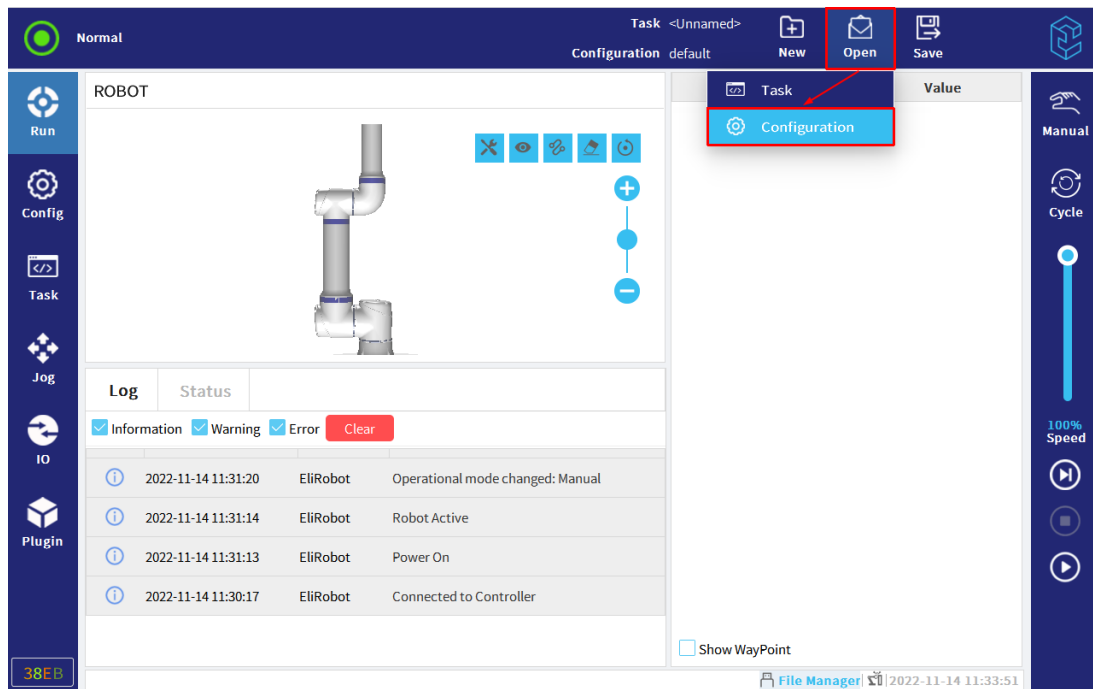

Figure 3-10 : Open profile
1. In task and configuration manager, click "Open" and then select "Configuration", as shown in **Figure 3-10**.